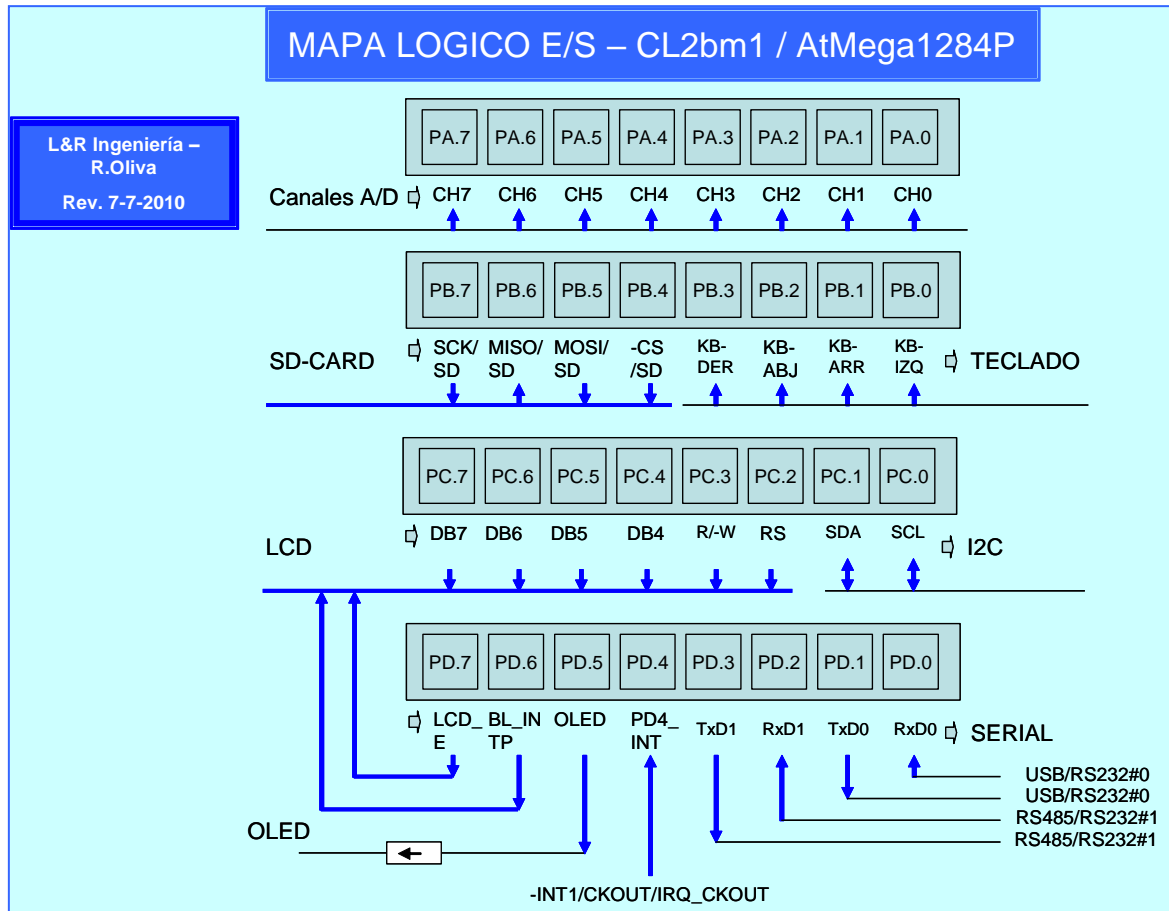

Figure 3 – Programming model of the CL2bm1 board for ATmega1284P
2.b Programming model The ATmega1284P controller on CL2bm1 can be programmed in C or C++ using compatible cross-compilers. The examples in Section 3 will use CodevisionAVR from HPInfoTech [ref01], only available for Windows 7-10. Future examples will use VSC+PIO [ref04] [ref05], and the classical Arduino IDE[ref06], all available also on Ubuntu to show slight differences. Programs are compiled on a standard PC and downloaded to the board via:
- The pre-loaded, modified Optiboot [ref07] bootloader mentioned in Section 1, which works through the COM0 port.
The CL2bm1 programming interface is shown on Figure 3. The 8 ADC channels are general purpose 10-bit resolution using the internal AVR SAR analog to digital converter [ref13]. If greater resolution is required, 3 13-bit ADC inputs are available on the M4/E
Example3: (/lcdserialanalog) It builds on Example 2 and adds the alphanumeric LCD interface shown in Figure 3. This example uses the low level /drivers/lcd/lcd4x20 routines, but configured for a simple 2x16 LCD. It also uses a higher level /modules/display set of routines, which “isolates” the display requirements from the specific display hardware.